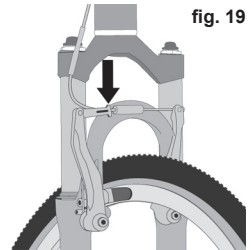

fig. 19
3. Some bicycle brakes, such as disc brakes (fig. 18) and linear-pull brakes (fig. 19), are extremely powerful. Take extra care in becoming familiar with these brakes and exercise particular care when using them.
Most rim brakes have some form of quick-release mechanism to allow the brake pads to clear the tire when a wheel is removed or reinstalled. When the brake quick-release is in the open position, the brakes are inoperative. Ask your authorized retailer to make sure that you understand the way the brake quick-release works on your e-bike (**see figs. 19, 20, 21 & 22**) and check each time to make sure both brakes work correctly before you get on the e-bike.